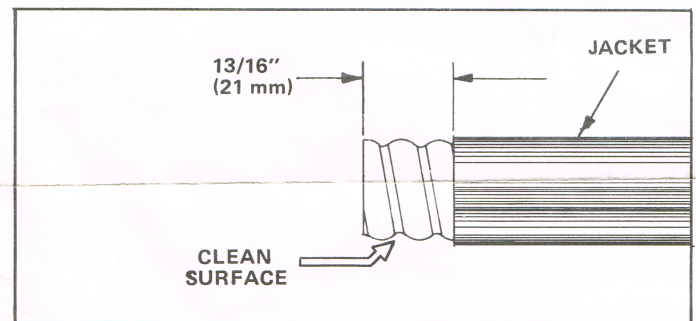

FIGURE 1
STEP 1. Prepare cable as shown in Figure 1. Cable end must be square. If not, use hacksaw to make new cut. Use straight-edged piece of paper wrapped around cable to guide jacketing cut. Use knife to remove jacket. Clean outer conductor with solvent. Use file to remove burrs from outer conductor, and knife to gently deburr inner conductor. Use wire brush to remove copper particles from foam.